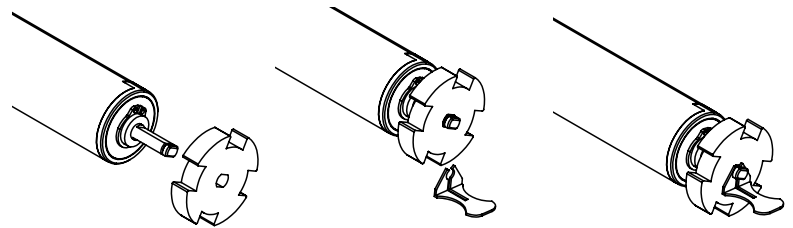

Figure 9. Slide the Driver on
Step 6. Slide the driver onto the end of the motor shaft. Then snap the drive retainer onto the motor shaft as shown in **Figure 9**.